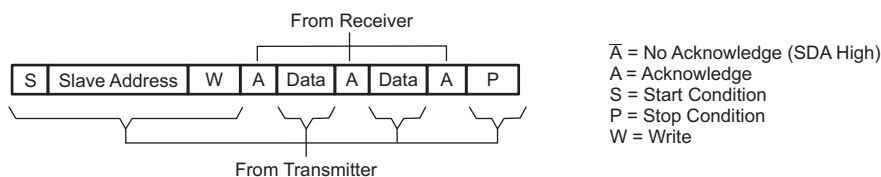
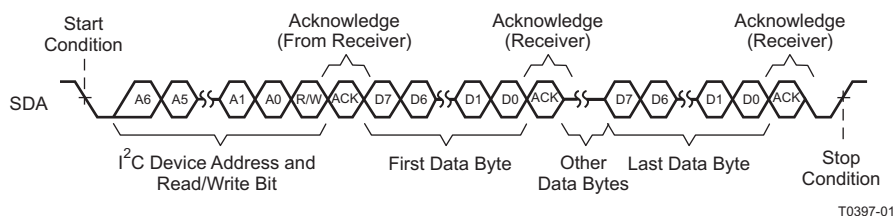
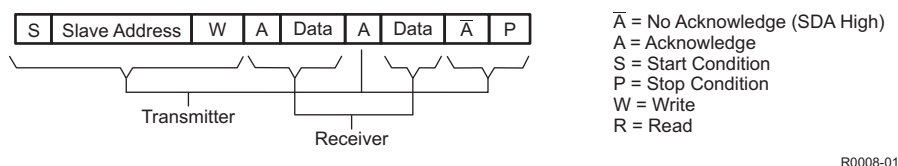
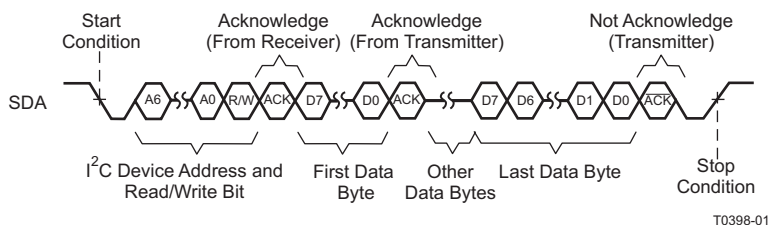

Figure 40. I²C Write Cycle
Figure 41. Multiple-Byte Write Transfer
Figure 42. I²C Read Cycle
Figure 43. Multiple-Byte Read Transfer
- The master generates further SCL cycles to either *transmit* data to the slave (R/W bit 0) or *receive* data from the slave (R/W bit 1). In either case, the *receiver* must acknowledge the data sent by the *transmitter*. So an acknowledge signal can be generated either by the master or by the slave, depending on which one is the receiver. The 9-bit valid data sequences consisting of 8-bit data and 1-bit acknowledge can continue as long as necessary (See Figure 40 through Figure 43).
During a write cycle, the transmitting device must not drive the SDA signal line during the acknowledge cycle so that the receiving device may drive the SDA signal low. After each byte transfer following the address byte, the receiving device pulls the SDA line low for one SCL clock cycle. A stop condition is initiated by the transmitting device after the last byte is transferred. An example of a write cycle can be found in Figure 40 and Figure 41. Note that the TMDS361 allows multiple write transfers to occur. See the Example – Writing to the TMDS361 section for more information.
During a read cycle, the slave receiver acknowledges the initial address byte if it decodes the address as its address. Following this initial acknowledge by the slave, the master device becomes a receiver and acknowledges data bytes sent by the slave. When the master has received all of the requested data bytes from the slave, the not-acknowledge (\bar{A}) condition is initiated by the master by keeping the SDA signal high just before it asserts the stop (P) condition. This sequence terminates a read cycle as shown in Figure 42 and Figure 43. See the Example – Reading from the TMDS361 section for more information.